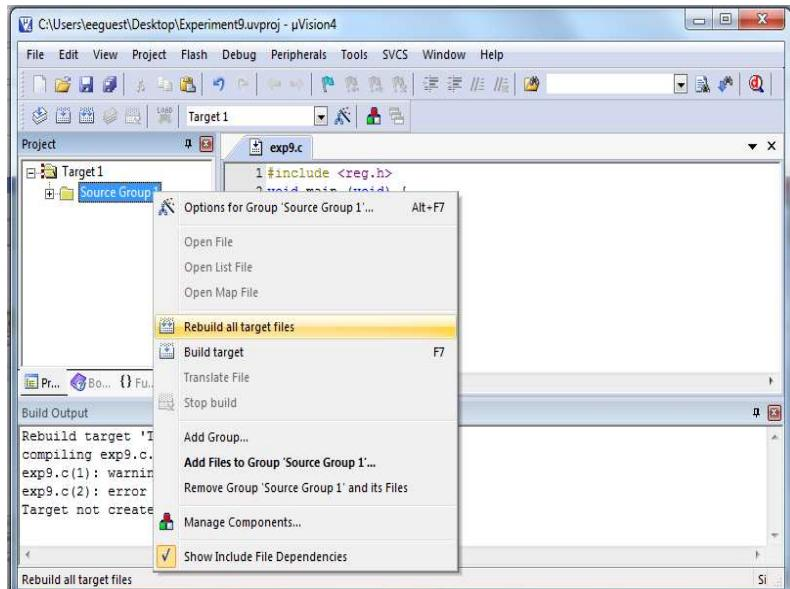

Figure 9.12: Rebuilding all target files.
- 14) Right click “Source Group 1” and press “Rebuild all Target Files” as shown in Figure 9.12. This will generate the hex files.